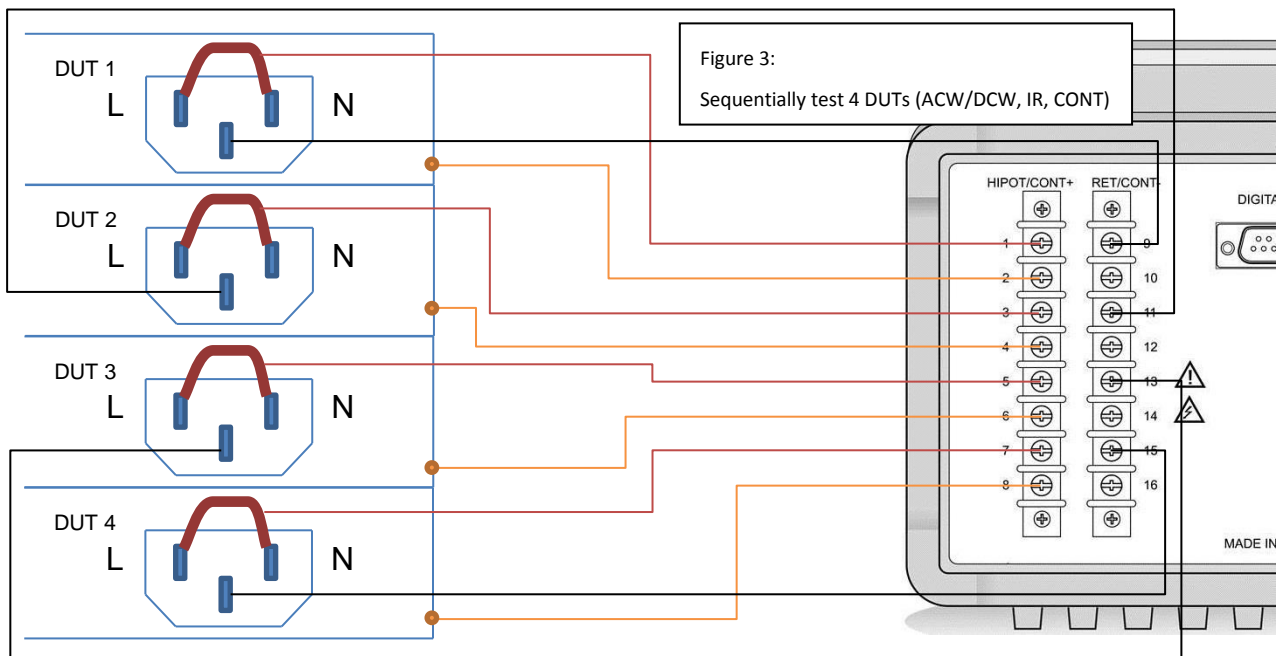

Figure 3: Sequentially test up to 4 DUTs (ACW/DCW, IR, CONT)–
- HV test point (typically the L+N terminals of the AC inlet to the DUT as shown in Figure 3) to terminal 1, 3, 5 and 7 (for DUT 1 through 4 respectively)
- Chassis Common (typically the G terminal of the AC inlet to the DUT as shown in Figure 3) to terminal 9, 11, 13 and 15 (for DUT 1 through 4 respectively)
- Chassis CONT test point (typically an exposed chassis point on each DUT as shown in Figure 3) to terminal 2, 4, 6 and 8 (for DUT 1 through 4 respectively)